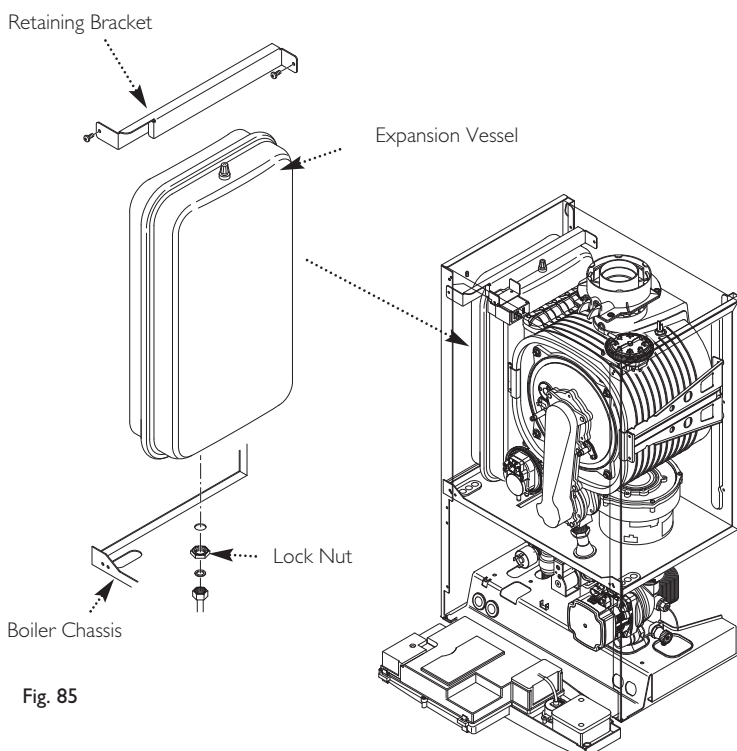

Fig. 85
13.26 Expansion Vessel (Fig. 85)